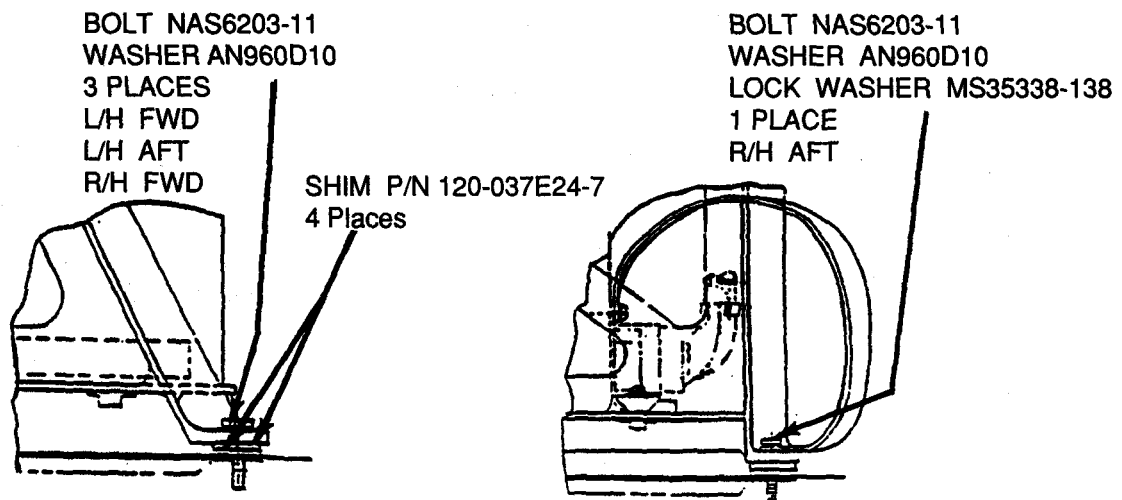

Figure 4. Shimming of Airborne Laser Tracker Support.
(1) Remove Forward Pylon Fairing, Airborne Laser Tracker Receiver and Receiver Support Assembly from the aircraft.
(2) Install Receiver Support Assembly with the approximate amount of shims required in equal amounts under each of the four mounting points. Maximum allowable shim under mounting points is 0.188 inch or 2 ea. 120-037E24-7 shims. Retain Receiver Support Assembly with bolts, P/N NAS 6203-11. See Figure 4.
(3) Reinstall Airborne Laser Tracker Receiver and Forward Pylon Fairing and check for adequate clearances.
(4) If shims require adjusting, repeat paragraphs f.(2) and f.(3).
(5) If adequate clearance exists then proceed to paragraph g., if it has not already been accomplished.
If braided strap (P/NSM-D-968532-2) is used from Airborne Laser Tracker installation kit (P/NSM-A-96853) then install strap as shown in Figure 4.